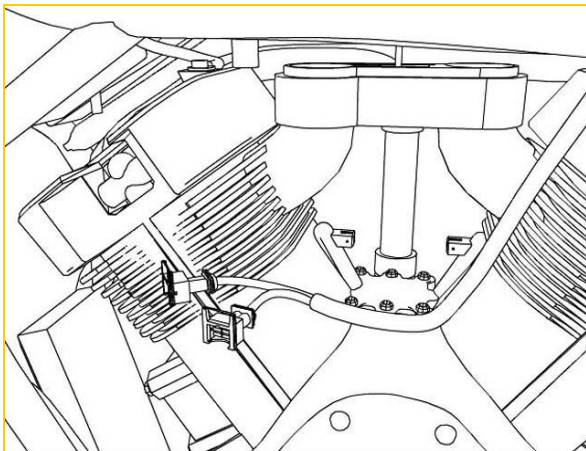

Fig 9
10. Feed the factory injector harness out the left side. (Fig 9)